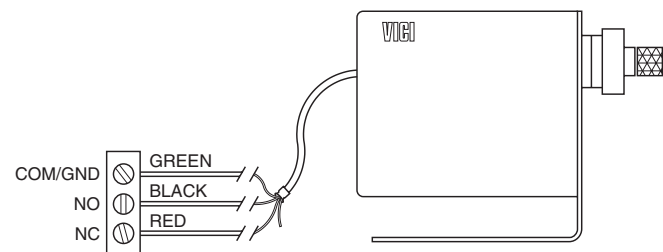

Figure 3: Single relay connection
If the data system has only a single double-pole relay with normally open (NO) and normally closed (NC) terminals (Figure 3), connect the green wire (GROUND) to the relay common or logic ground. Connect the black (INJECT) wire to the normally open (NO) relay terminal and the red (LOAD) wire to the normally closed (NC) terminal. The computer must be programmed to keep the normally open (NO) relay contact energized as long as the actuator is to remain in the INJECT position.